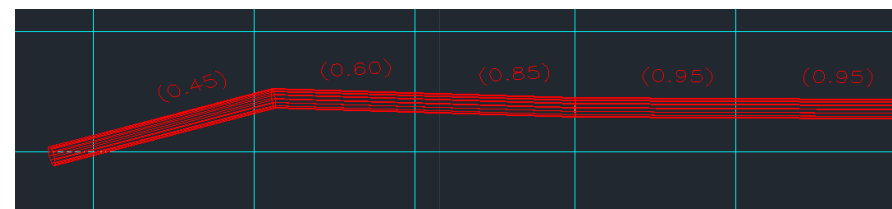

Fig. 139 - XY section of the target. Step for Pipe Depth Text = 1
- **Pipe Depth Text:** select the distance interval of the fields associated to each pipe. In this way the User can easily read the depth of the target in respect to reference surface (XY Plane) (Fig. 139).